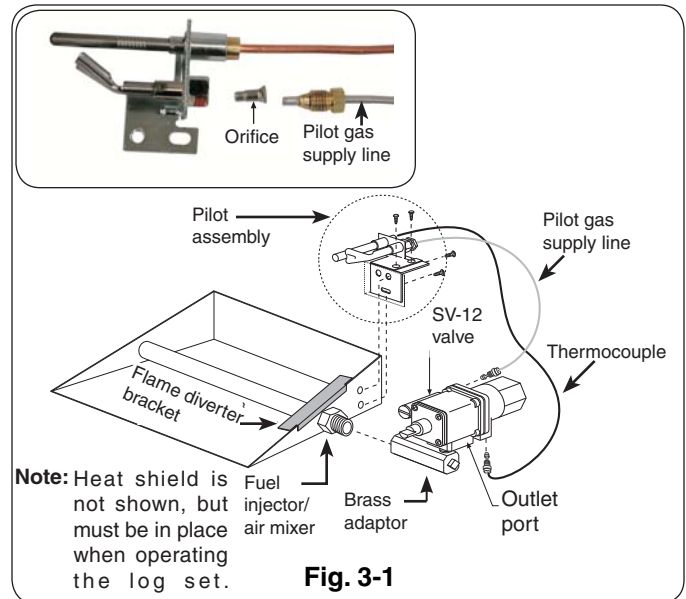

Fig. 3-1
The safety pilot kit is shipped with a natural gas orifice installed unless the safety pilot kit was received in the same box as the propane burner. To change from natural to propane gas, remove the pilot gas supply line at the pilot end. Replace the natural gas orifice with the propane gas orifice contained in the yellow envelope marked "L.P.-GAS", provided in the bag. Reattach the pilot gas supply line to pilot (Fig. 3-1).
- B. Screw the brass adapter to the fuel injector or air mixer on the burner (Fig. 3-1).